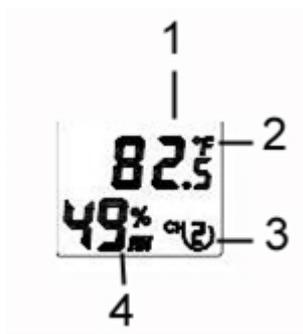

Figure 19
- Verify the correct channel number (CH) and temperature units of measure ($^{\circ}\text{F}$ vs. $^{\circ}\text{C}$) are on the display, as shown in Figure 19.